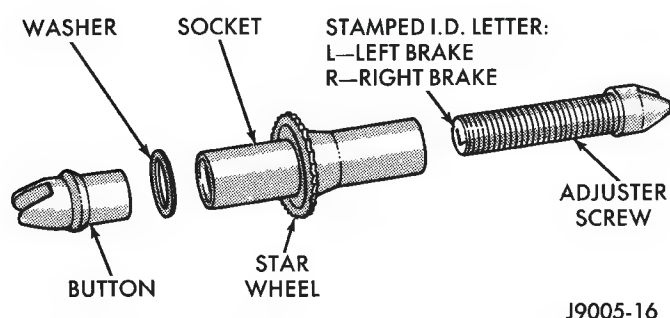

Fig. 5 Adjuster Screw Components (9-Inch Brake)
- (6) Attach parking brake lever to secondary brake shoe. Use new washer and U-clip to secure lever.
- (7) Remove wheel cylinder dampers.
- (8) Attach parking brake cable to lever.
- (9) Install brakeshoes on support plate. Secure shoes with new holddown springs, pins and retainers.
- (10) Install parking brake strut and spring.
- (11) Install guide plate and adjuster cable on anchor pin.
- (12) Install primary and secondary return springs.
- (13) Install adjuster cable guide on secondary shoe.
- (14) Lubricate and assemble adjuster screw (Fig. 5).
- (15) Install adjuster screw, spring and lever and connect to adjuster cable.